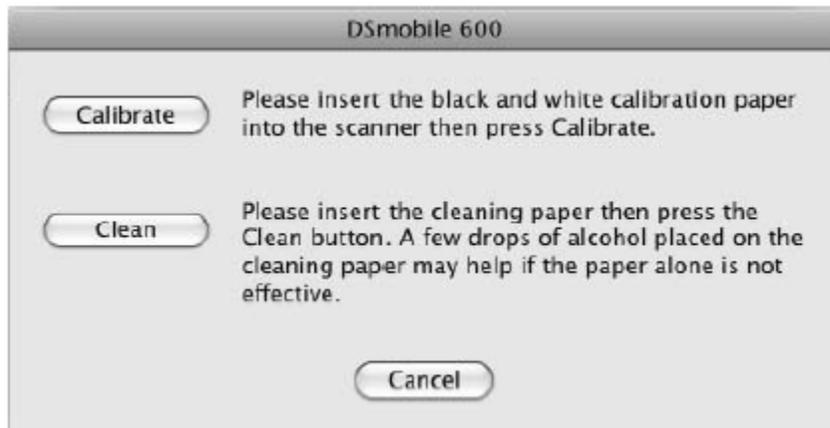

Figure 6. Initiating the Calibration Step
11. Click the “Calibrate” button again (See Figure 6).